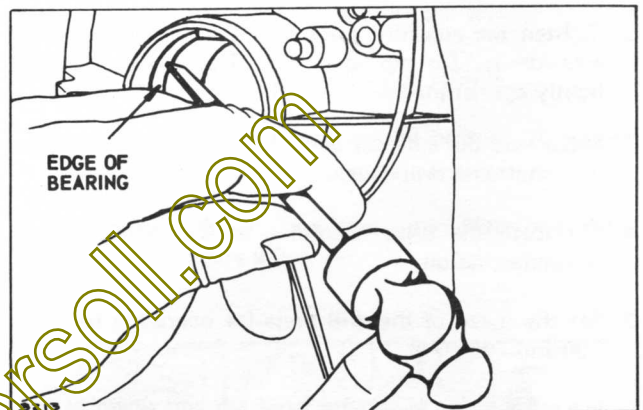

FIGURE 9-6
- c. Use a chisel and hammer to put a notch at the mark on the rim of the bearing bore. Make the notch at a 45 degree angle to the bore surface. See figure 9-6.